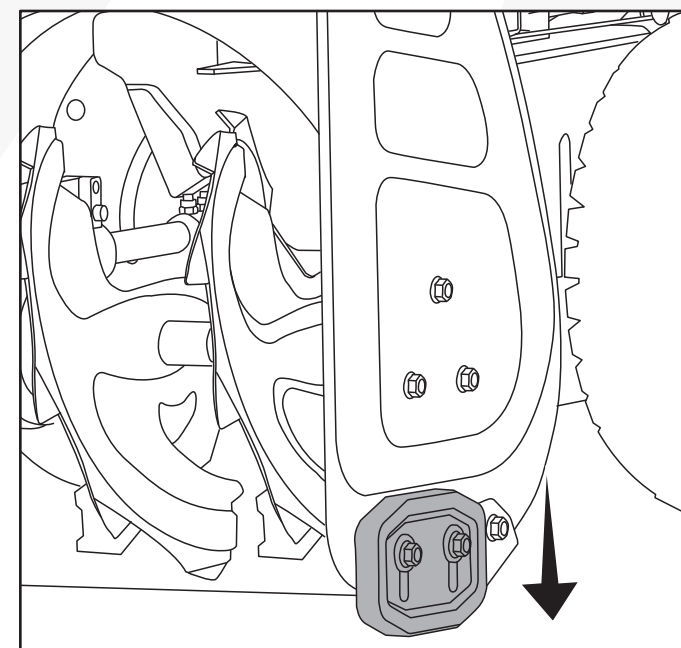

Fig. 17B
- To avoid wear and tear when on uneven surfaces, the operator needs to increase the distance from the auger housing to the ground by lowering the skid shoes. (Fig. 17B)